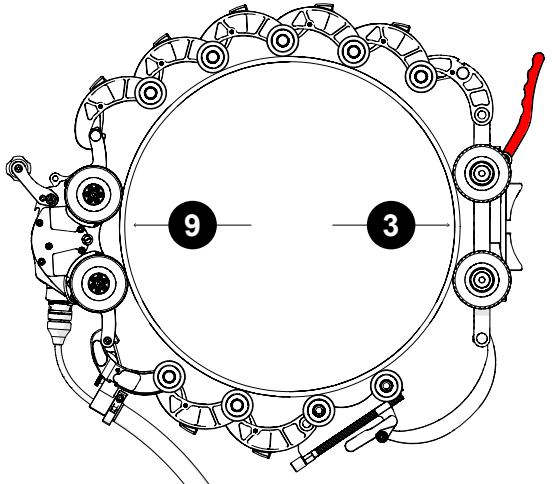

Fig. 94 - Position source cart at 3 or 9 o'clock with lever pointing up
13. Drive the system forward or in reverse to bring the source cart base to the three o'clock or 9 o'clock position (see "Jog Mode" on page 54). The red lever of the source cart base should ideally be angled upwards (Fig. 94).